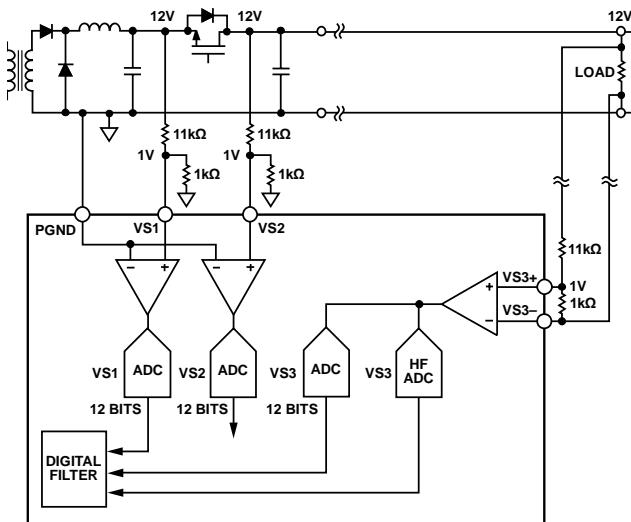

Figure 16. Voltage Sense Configuration
VS1 is used for the monitoring and protection of the power supply voltage at the output of the LC stage, upstream of the OrFET. The VS1 sense point on the power rail needs an external resistor divider to bring the nominal input voltage to 1 V at the VS1 pin (see Figure 16). The resistor divider is necessary because the VS1 ADC input range is 0 V to 1.6 V (12-bit reading). This divided-down signal is internally fed into a low speed  $\Sigma$ - $\Delta$  ADC. The output of the VS1 ADC goes to the digital filter and is also updated in Register 0x15 every 10 ms. The VS1 signal is referenced to PGND. When the OrFET is turned off, the power supply is regulated from the VS1 sense point instead of the VS3± sense point.
VS2 is used in conjunction with VS1 to control the OrFET gate drive turn-on. The VS2 sense point on the power rail needs an external resistor divider to bring the nominal common-mode signal to 1 V at the VS2 pin (see Figure 16).
VS3± is used for the monitoring and protection of the remote load voltage. VS3± is a fully differential input that is the main feedback sense point for the power supply control loop. The VS3± sense point on the power rail needs an external resistor divider to bring the nominal common-mode signal to 1 V at the VS3± pins (see Figure 16). The resistor divider is necessary because the VS3 ADC input range is 0 V to 1.6 V. This divided-down signal is internally fed into a high frequency (HF) ADC. The output of the VS3 ADC goes to the digital filter and is also updated in Register 0x17 every 10 ms. The HF ADC is also the high frequency feedback loop for the power supply.